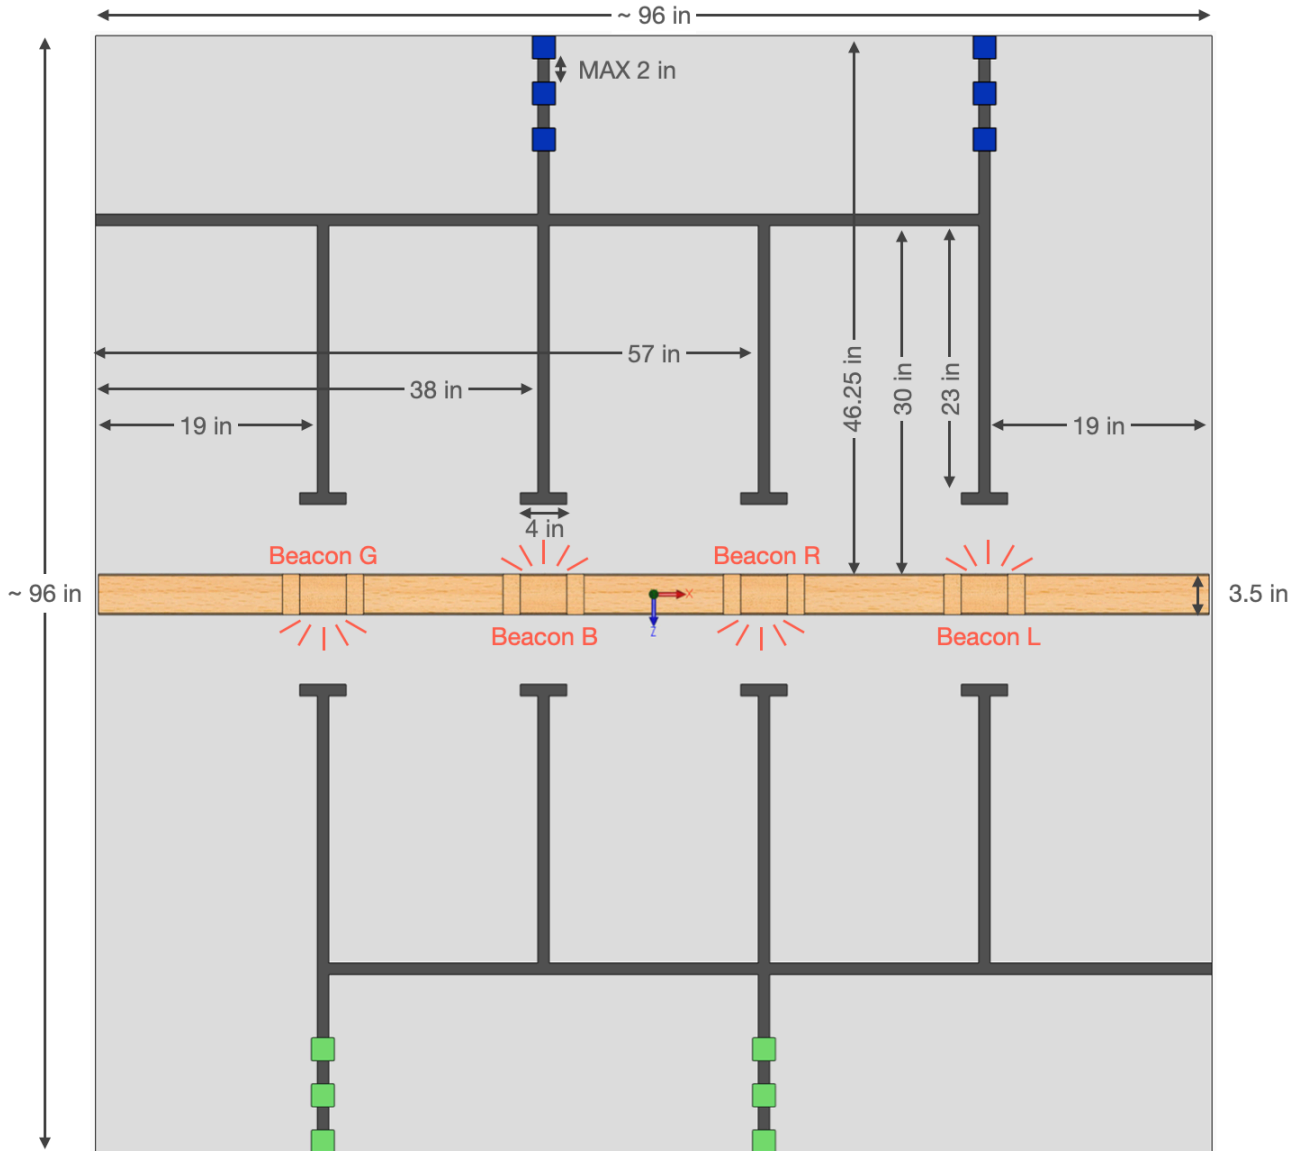

Figure 1: The playing Arena. Beacons B and L point towards the top side, while Beacons G and L point towards the bottom half. All dimensions are ± 2 cm.
- ☐ The Arena is an approximately 244 cm by 244 cm with exterior walls 8.25 cm tall. A top view is shown in Figure 1.